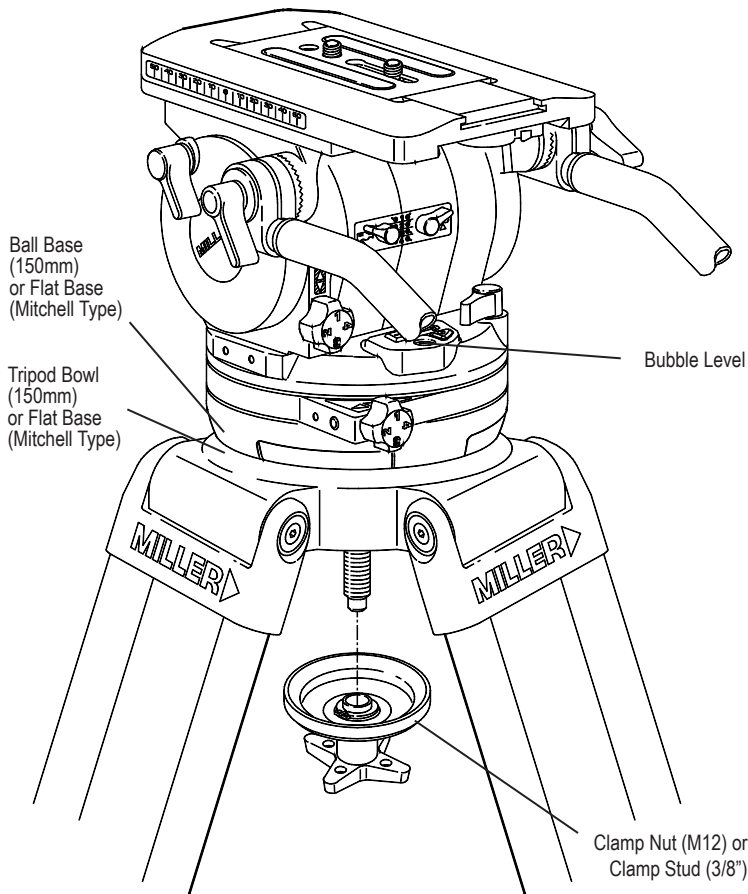

Fig 3.
1. Unscrew the CLAMP NUT from its threaded stud/hole. (see Fig. 3)